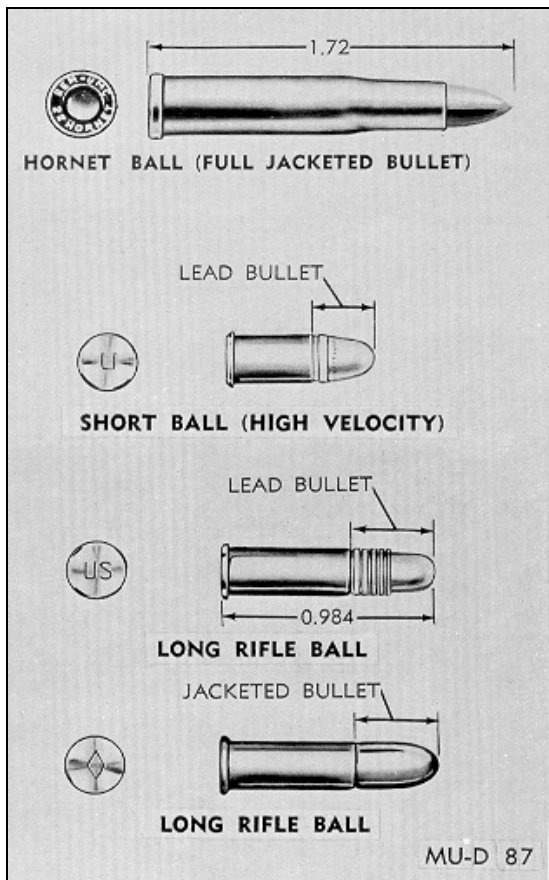

Figure 10. Caliber .22 cartridges
*Cartridges of various calibers.* (figures. 10 through 12), which consist of different types of projectiles and bullets, are used for training and special purposes. They include the following:
- (1) Caliber .22 long rifle and caliber .38 and .45 wad-cutter cartridge for target shooting.
- (2) Caliber .45 blank cartridges fired in exercises to condition dogs to gun fire.
- (3) Caliber .22 hornet and .410 shotgun cartridges for firing in Air Force combination (survival) weapons for hunting purposes.
- (4) Caliber .45 line-throwing cartridges for firing in caliber .45 line-throwing rifles. The Navy uses these for throwing lines from ship-to-ship. The Army Signal Corps uses these for projecting signal wires over elevated terrain.